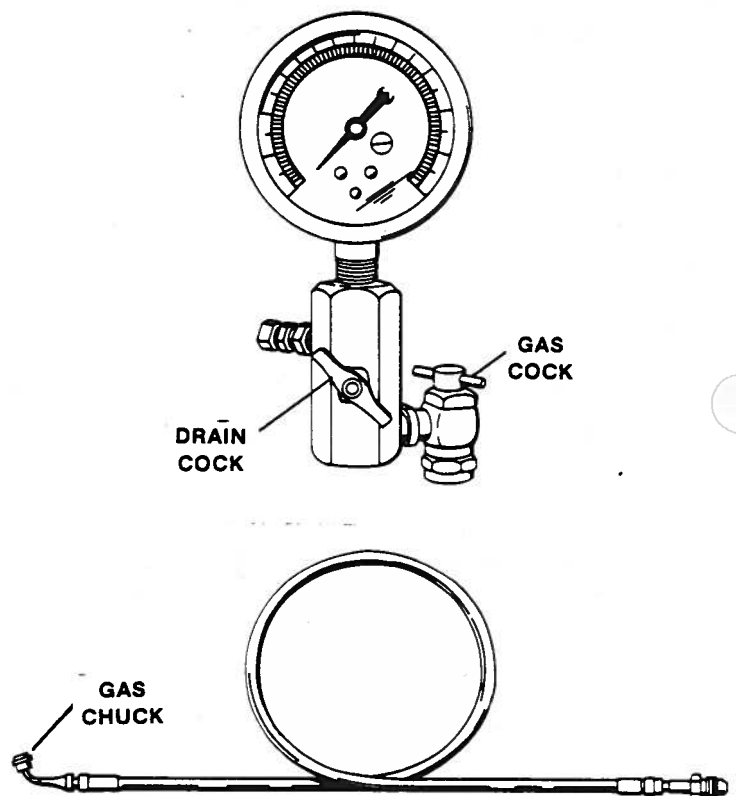

Figure 4-12. Charging Hose and Gage Assembly
e. Install gage assembly (figure 4-12) to gas valve.